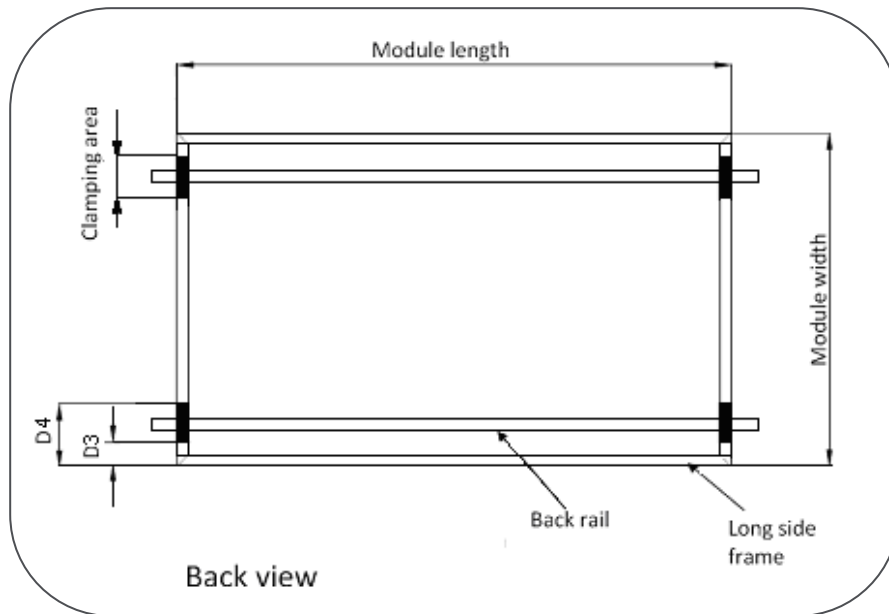

Figure 4 Effective mounting area (clamping )
- Clamping on shorter side frame: The side frames are attached to the shorter sides of the module. Figure 4 shows effective mounting area.